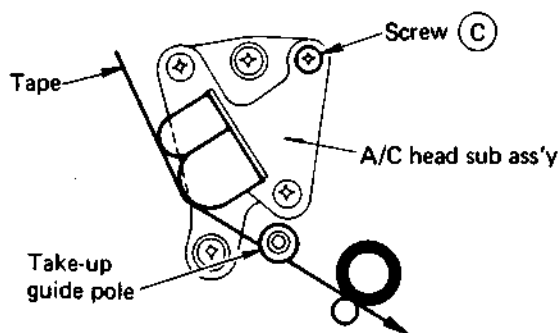

Fig. 5-33 Take-up guide pole
2. Turn audio/control head screw (C) as shown in Fig. 5-33 and adjust for smooth transport at the take-up guide pole as shown by F of Fig. 5-29.